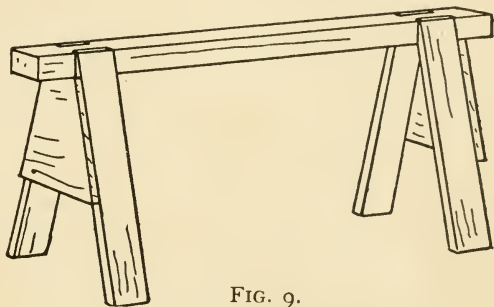
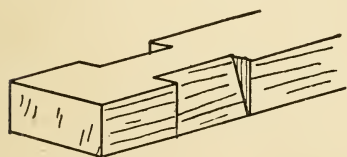

FIG. 9.
FIG. 10.
**Two Carpenter's Horses** will be required. A good scheme for these is shown in Fig. 9. The top is made out of a piece of two-by-four with bevelled mortises cut in two sides of each end as in Fig. 10. These mortises are made to receive the legs, and the angle of the bevel will of course determine the angle at which the legs will spread.